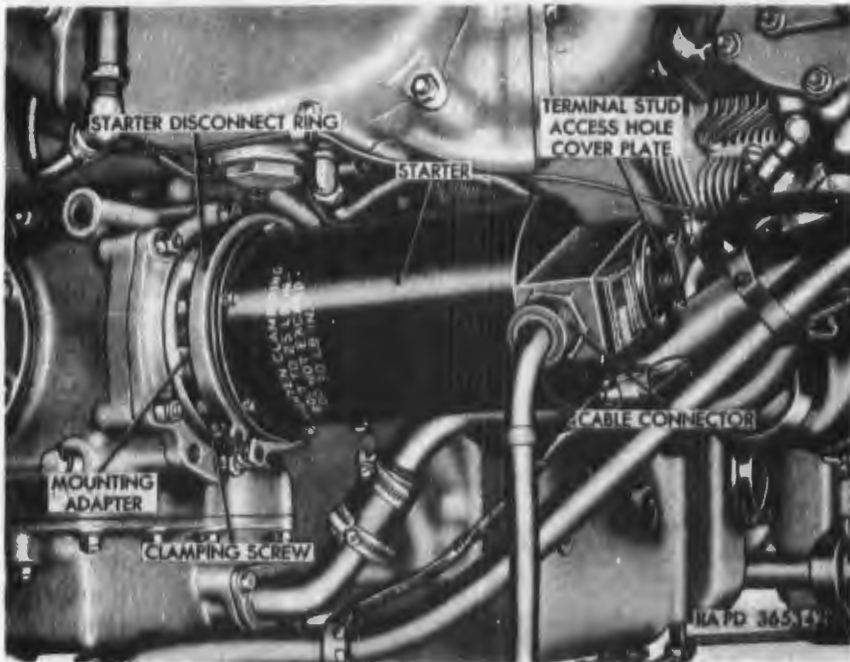

Figure 141. Eclipse-Pioneer starter installed.
f. Removal of Eclipse-Pioneer Retaining Ring Mounted Starter (fig. 141).
- (1) Remove power plant (par. 126).
- (2) Cut locking wire and remove four fillister-head screws and flat washers securing covering plate and gasket to starter and remove cover and gasket.
- (3) Loosen retaining nut and unscrew cable adapter from starter housing.
- (4) Remove cotter pin, castellated nut, lockwasher, and two
- (5) Cut locking wire and loosen clamping screw on starter retaining ring. Remove starter and retaining ring from mounting adapter being careful not to damage starter pinion shaft. Remove retaining ring from starter.
g. Installation of Eclipse-Pioneer Retaining Ring Mounted Starter (fig. 141).
- (1) Place starter retaining ring on flange of starter and insert starter into mounting adapter.
- (2) Position retaining ring on flanges of starter and adapter and secure starter by tightening clamping screw to 25-pound-inches; do not exceed 30 pound-inches. Lock screw in place with locking wire.
- (3) Insert starter to starter relay cable through starter housing hole and position on terminal post. Secure cable terminal with $\frac{3}{8}$ -inch flat washer on each side of cable terminal, $\frac{3}{8}$ -inch lockwasher, $\frac{3}{8}$ -inch castellated nut, and $\frac{1}{16} \times \frac{5}{8}$ cotter pin.
- (4) Install cable adapter in housing and tighten retaining nut.
(5) Position covering plate and gasket on starter and secure with four No. 8 x $\frac{3}{8}$ fillister-head screws and $\frac{1}{16}$ -inch flat washers, and locking wire.
(6) Install power plant (par. 130).
(1) Perform operations detailed in *f* above.
(2) Remove six jamnuts, hex nuts, and flat washers which secure the Eclipse-Pioneer mounting adapter (fig. 141) to the gear adapter on the engine and remove the adapter.
(3) Install mounting ring gasket, mounting ring, mounting plate gasket, and mounting plate on the starter mounting studs in order mentioned.
(4) Secure these parts with six special $\frac{3}{8}$ -inch splined nuts and tighten to 20 to 40 pound-inches.
(5) Position starter on six mounting studs. Turn nut on mounting gear pinion clockwise to screw starter into adapter and tighten to 25 pound-inches. Install locking plate on mounting gear pinion and secure with two $\frac{1}{16}$ -inch flat washers and $\frac{1}{4}$ -inch safety nuts. Complete installation of starter using procedure detailed in *c* (3) through (6) above.